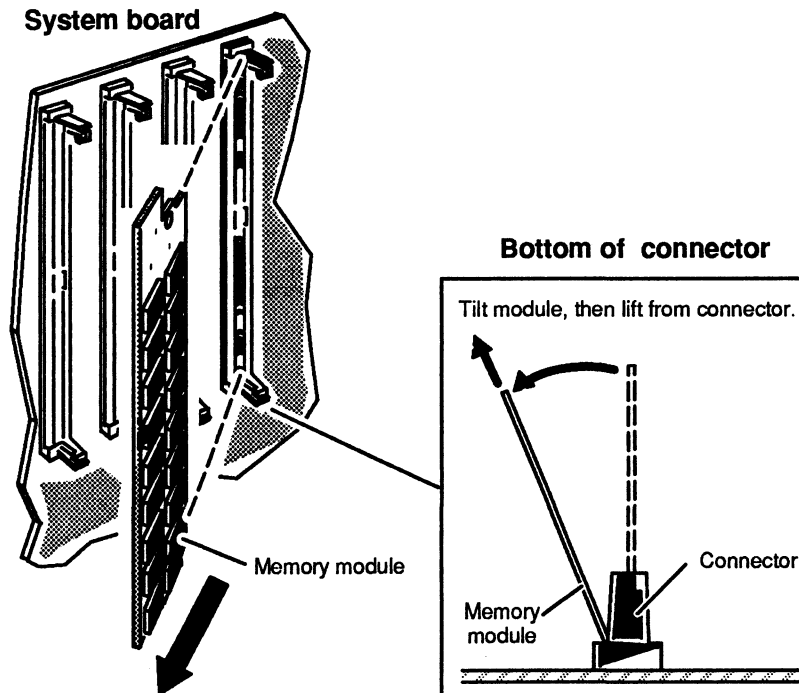

Figure 3-4 Removing a Memory Module
2. With the locking tabs released, raise the memory module to about a 20° angle as shown in Figure 3-4, and *gently* pull the module from its connector.